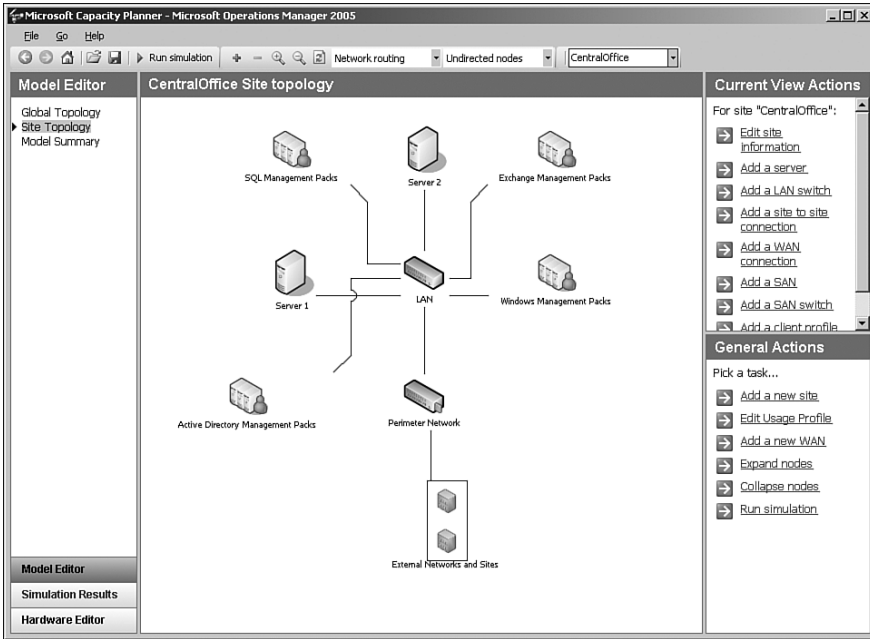

FIGURE 4.3 System Center Capacity Planner.
- ▶ The System Center Capacity Planner—This tool (see Figure 4.3), can be used to assist in architecting a MOM solution and provides the ability to create “what-if” analysis, such as “what-if” I add another 100 servers to be monitored by MOM 2005?